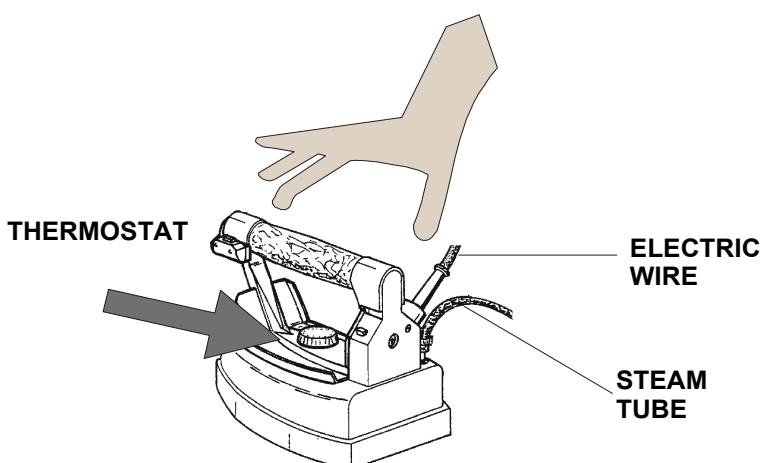
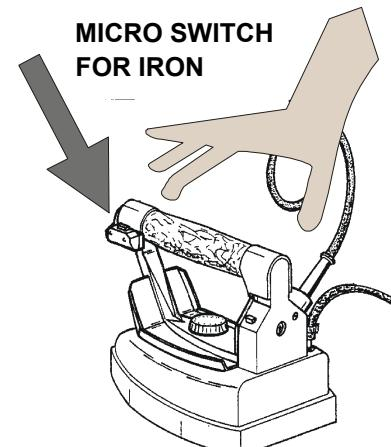

Fig. 2
Fig. 3
3. Switch on the boiler (fig. 1), the iron (fig. 1) and adjust the thermostat (fig. 2) on "cotton".
1. Run the iron on garments, pressing the iron microswitch (fig. 3) for steam. For a better result, set the thermostat (fig. 2) on "cotton".
4. For dry ironing it is possible to adjust the thermostat (fig. 2) on different positions according to the type of fabric (look at garment label). For steam ironing set the thermostat on "cotton" or "linen".
5. If you work on a non-vacuum board, some circular water spots might form because of condensed steam. To get round this problem, put a felt under the usual padding and adjust the hand-wheel for steam regulation on minimum (fig. 2).
During the ironing, if steam flow decreases considerably and then ends definitely, it means that there is no more water in the boiler. So MINI 1 has to be switched off by disconnecting the plug; rotate the valve plug (fig. 1) of 360° and wait for steam to go out completely. Unscrew the valve plug with care and wait some minutes. Then fill the boiler with water (fig. 1) max 0,8 L. Screw the valve plug again, connect the plug and wait for the boiler lamp to switch off (fig. 2 C). Now the iron is ready again. ATTENTION: MINI 1 must always be on horizontal position.
3. steam tube and iron cable once they seem spoilt (fig. 2).